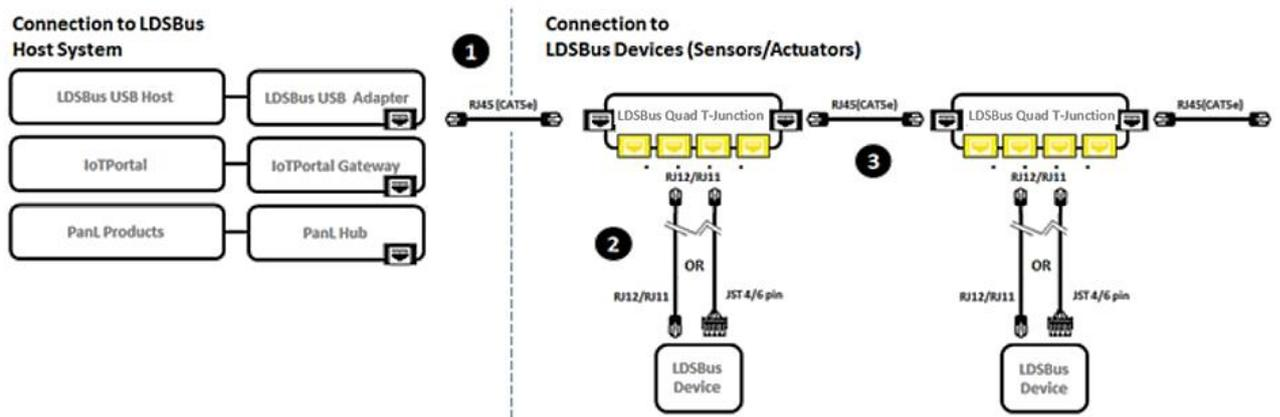

Figure 3 - LDSBus IR Blaster to LDS Bus – Connection Diagram
Figure 3 illustrates the connection of the LDSBus IR Blaster (LDSBus Device) to the LDS Bus. Please visit <https://brtsys.com/resources> to view the full device application, setup and installation guides.
2. Figure 3.
3. Figure 3.